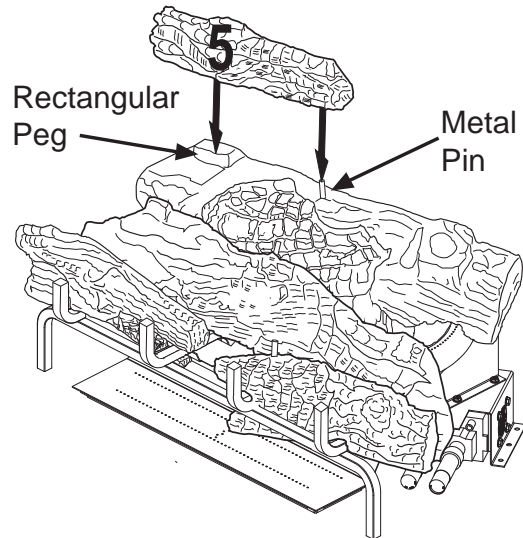

Figure 25 - Installing Log #5
- Place the left back top log (#5) on top of the rear log (#1). Match the rectangular peg on top of the left side of the rear log (#1) with the rectangular hole on the bottom of the left back top log (#5). Match the metal pin on the top of the rear log (#1) with the round hole in the bottom of the left back top log (#5). See **Figure 25**.